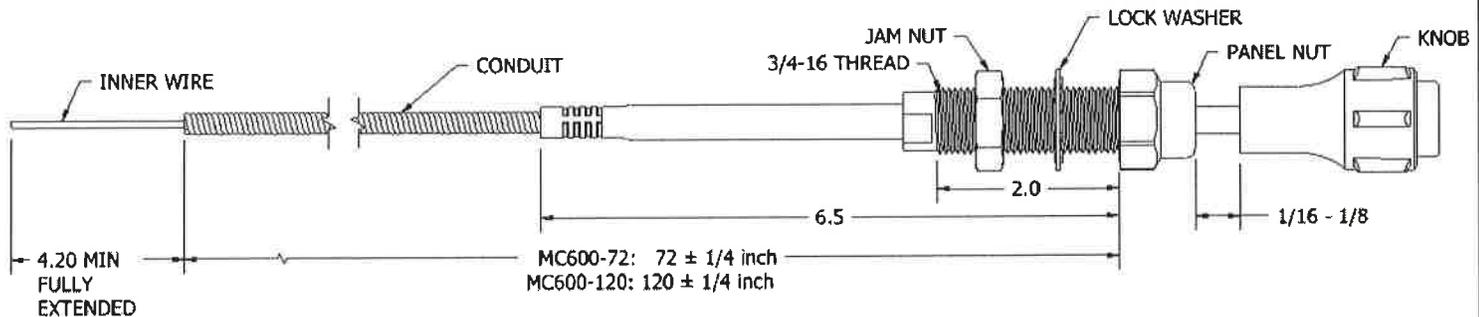

Figure 1.
10. Position the mixture control knob 1/16 – 1/8 of an inch from the panel nut as shown in Figure 1. Hold the carburetors mixture arm in the full rich position. Tighten or otherwise secure the hardware as appropriate, making certain that the control's inner-wire is secure and will not slip. Follow the aircraft manufacturers service information when securing or tightening the attaching hardware.
12. Inspect the function of the installation by moving the mixture knob to the full lean position. Visually inspect the carburetor's mixture arm. It must be against the lean stop on the carburetor. Move the control knob to the full rich position. Visual inspect the control arm on the carburetor. It must be against the full rich stop and the mixture control knob must be 1/16 to 1/8 of an inch from the panel nut as shown in figure 1. Cycle the control from full rich to full lean several times. The control should move freely without excessive resistance throughout it's range of travel. Move the flight controls to all positions and check for interference between the flight controls and the mixture control when the mixture control is in all positions. Correct any interference before the aircraft is returned to service.